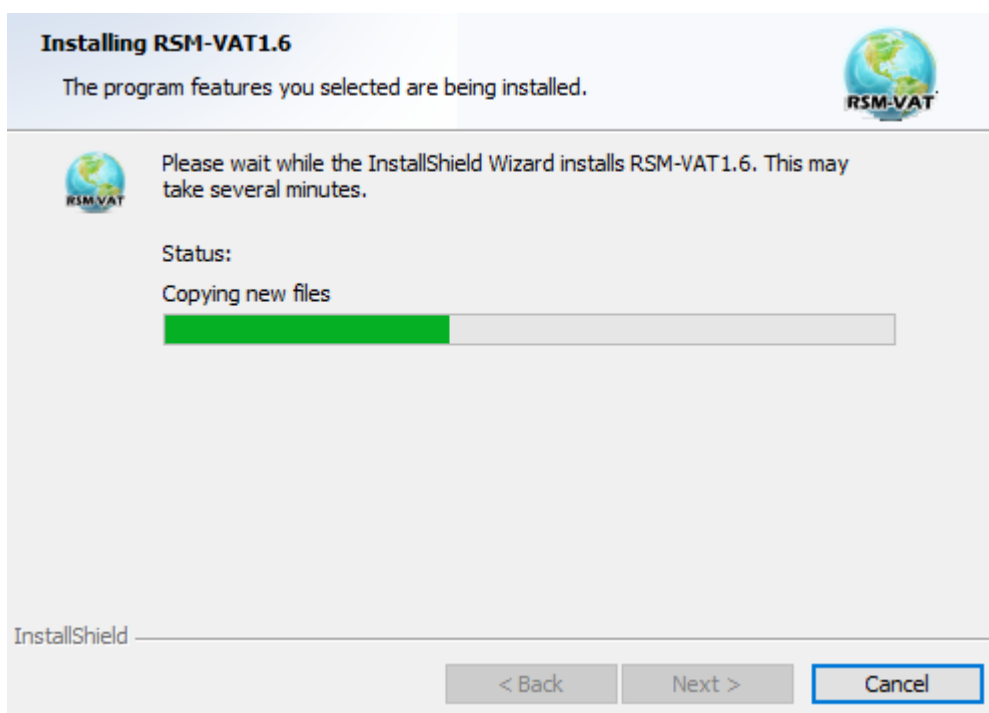

Fig. 4 Installation Process
- Click the **“Install”** button, Fig. 4 shows the installation process of RSM-VAT.